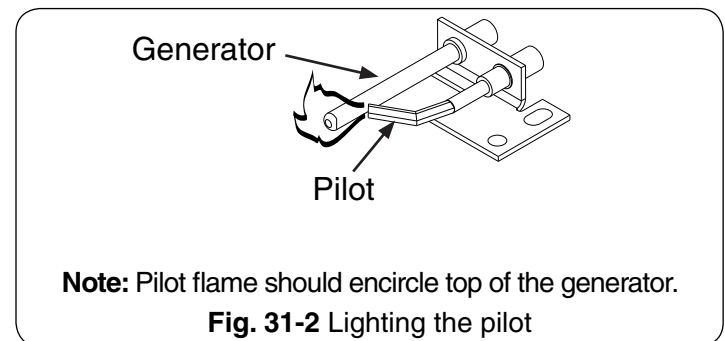

Fig. 31-2 Lighting the pilot
- a. The pilot flame should encircle the generator tip, and is preset at the factory (Fig. 31-2).